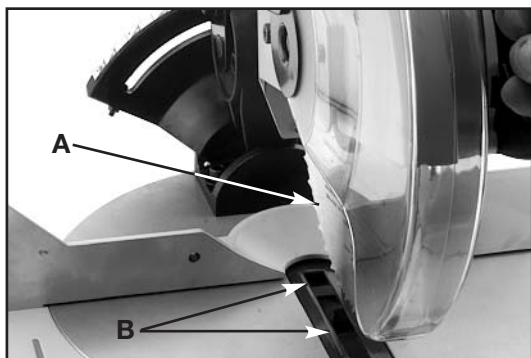

Fig. 20
Lower the saw blade arm as far as it will go. If the saw blade (A) Fig. 20 contacts the front edge or the rear edge of table insert (B) on its downward travel, proceed with the following adjustment:
2. Lower the saw blade arm and check the adjustment. **NOTE:** There should be a slight clearance between the saw blade (A) Fig. 20, and table insert (B). Repeat **STEP 2**, if necessary.